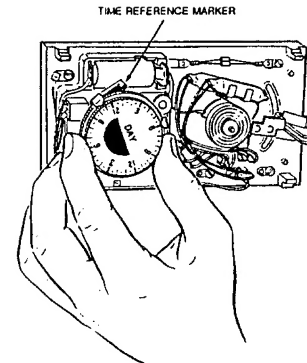

Figure 3. Setting timer clock.
2. Continue to turn the dial counterclockwise until correct time is **ONE HOUR** past the time reference marker (see fig. 3). If you turn the dial more than two hours past the correct time, start again at step 1.